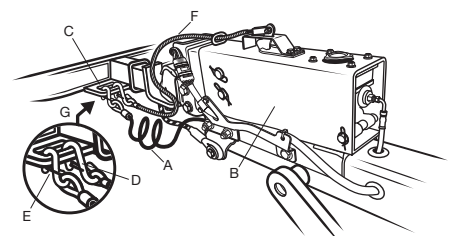

Figure 4
The right cable (A) crosses underneath the trailer tongue (B) and hooks to the left side of the tow vehicle permanent hitch (C), "D"-rings, frame or structure, or to the tow vehicle bumper brackets. (Figure 4) Do not attach cables to the ball or to a ball mount that is removable. The left cable hooks to the right side in the same manner. Crossing the cables under the tongue allows the minimum amount of slack for turning. The "S"-hooks (D) on safety CABLES should be hooked to attachment holes on the hitch, if present. For safety CHAINS the "S"-hooks can be hooked to the attachment holes or passed through these holes and hooked back to a link in the chain. Control safety CHAIN slack by hooking the chain back to itself or by twisting the links to shorten chain. Be sure the "S"-hooks have a functional spring clip retainer (E), or are secured with a rubber retainer. *The cables need slack to allow your vehicle to make turns. Make sure these cables attach securely to your tow vehicle and do not drag on the roadway.*
Trailers with brakes have a third cable, called the emergency brake cable (F). (Figures 4 and 5) This cable applies the brakes automatically in the unlikely event of a separation of the trailer from the tow vehicle. Attach this cable as close to the vehicle center as possible; to the tow vehicle permanent hitch, (C) "D"-rings, frame or structure, or to the bumper brackets. The "S"-hook (G) on this cable should be hooked to an attachment hole on the hitch, if present. Be sure the "S"-hook has a functional spring clip retainer, or is secured with a rubber retainer.